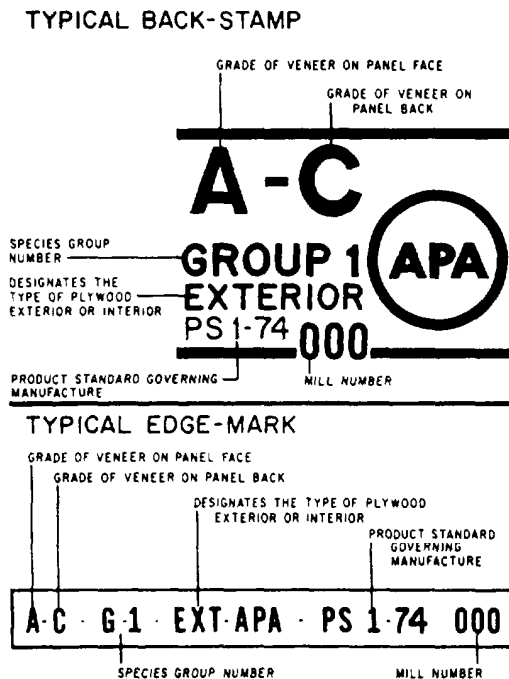

Figure 3-37.-Standard plywood identification symbols.
**Construction Panels.**— Grading identification stamps (such as those shown in figure 3-37) indicate the kind and type of plywood. The stamps are placed on the back and sometimes on the edges of each sheet of plywood.